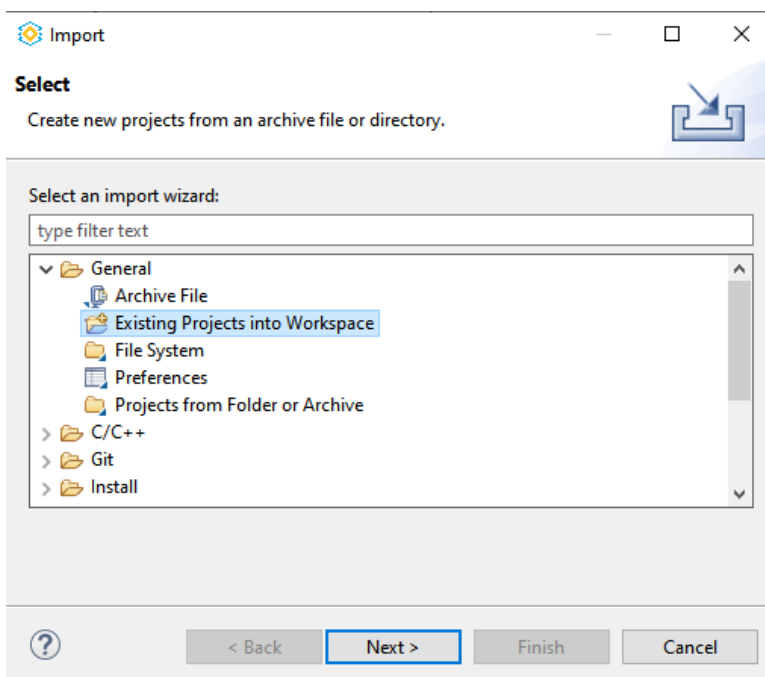

Figure A.21. Select Import Wizard
- Select **Existing Project in Workspace** from the **General** dropdown list and click on **Next** as shown in Figure A.21.